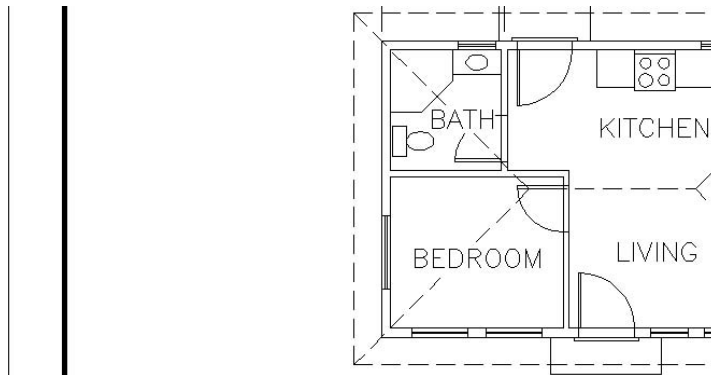

FIGURE 11.19: The result of zooming and panning for a view of the left side of the floor plan
1. Pan and zoom to get a good view of the left side of the floor plan, including the space between the roof and the border (see Figure 11.19).